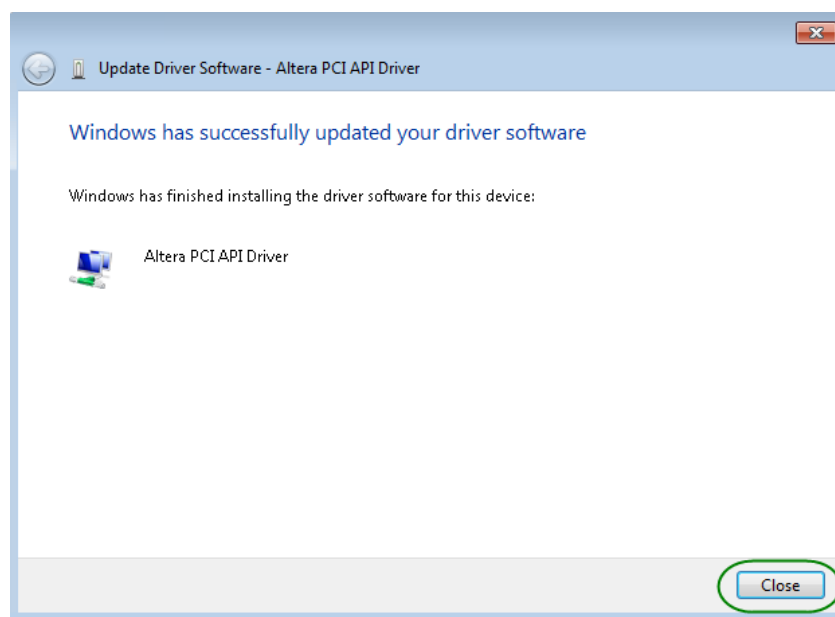

Figure 7-7 Click Close when the installation of the Altera PCI API Driver is
9. When the driver is installed successfully, the successfully dialog will appear, as shown in **Figure 7-7**. Click the **Close** button.